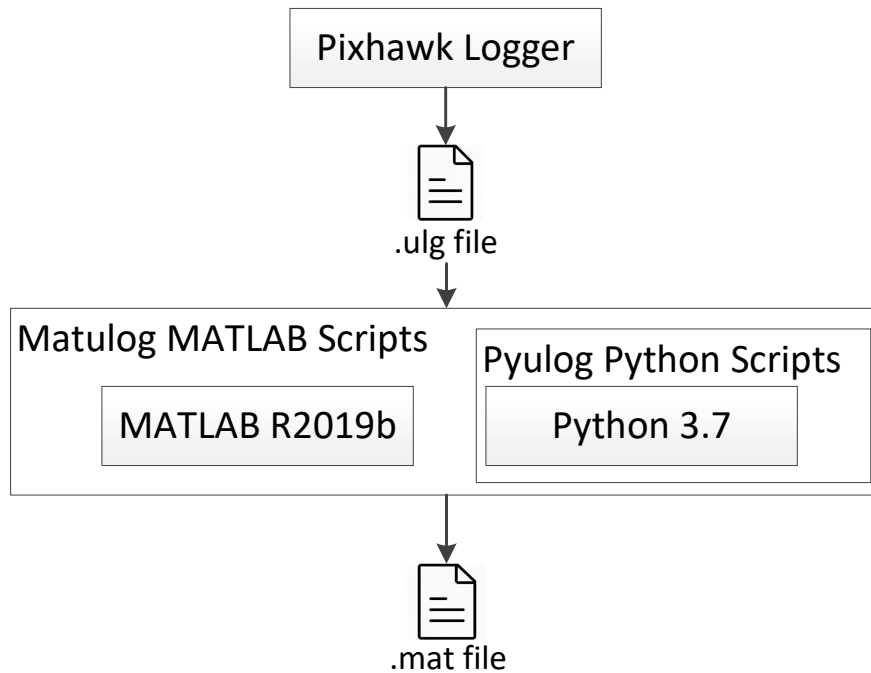

Figure 15: Toolchain for Log File Conversion.
**Pyulog and Matulog in combination with MATLAB:** Pyulog is a Python-based tool that, in combination with Matulog, converts `.ulg` files to `.mat` files. Python needs to be installed so that the Pyulog script is working properly. The software can be found on the provided USB stick. Afterwards, the Matulog script can be started in MATLAB to choose a file for file conversion. The Matulog MATLAB scripts can also be found on the provided USB stick. The toolchain is described in Fig.15.